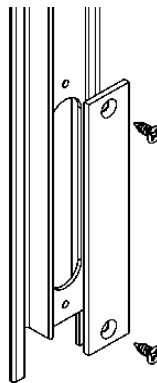

Figure 12:
8. On doors with meeting stiles, a stainless steel cover is provided to cover the oblong holes at the bottom of the male meeting stile (Figure 12).